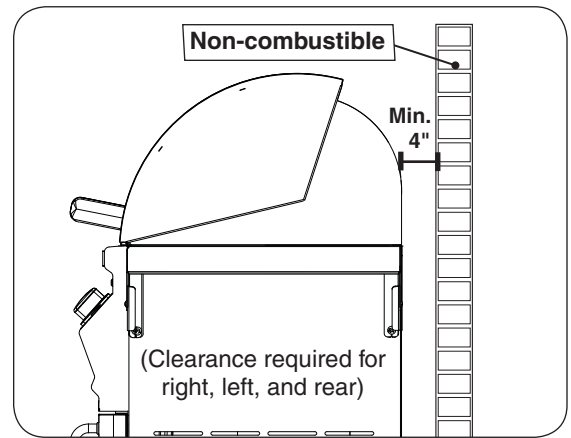

Fig. 10-2 Clearance 'B' Diagram
B. Clearance between grill and strictly non-combustible wall (i.e. brick wall, see Fig. 10-2)